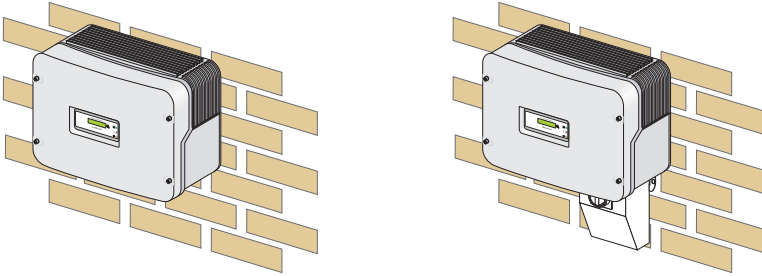

Figure 4-11: Mounted Sunny Boy with and without SMA DC-Disconnect
6. When the Sunny Boy has been mounted correctly it should look like one of the examples in Figure 4-11.